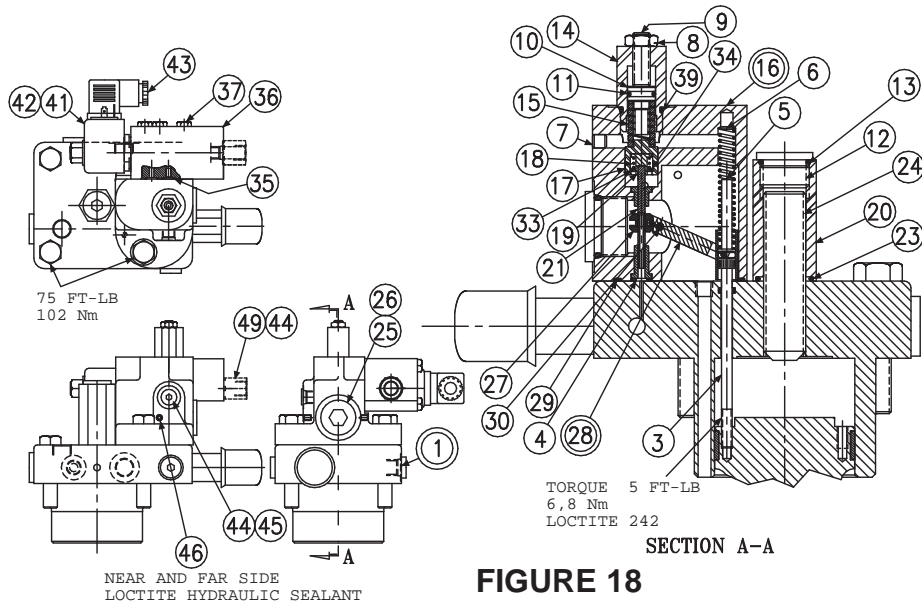

FIGURE 18
| 1 | #Electrohydraulic Stroker (Fig. 18) | S22-16001 | S22-16002 | 1 | 1 | 1 | 1 |
PARTS LIST FOR FIGURE 18
1. See Figure 18. Remove 3 screws (37) holding block (36) to body (16).
2. Remove 2 screws holding body (16) to cap assembly (1).
3. Remove all parts from body (16) except pin (30) and arm assembly (28). It is not necessary to remove these parts unless broken or worn. Examine parts for wear or damage.
4. Remove screw (3). Examine head for excessive wear, and body for smooth sealing surface with O-ring.
2. Install spool (4) into bore as shown. Install spring (8) over end of spool.
3. Install O-ring (13) on spring retainer (12). Install retainer (12), screw (14), and nut (15) in plug (3).
4. Install O-rings (7) and (16) on plug (3). Install plugs (3) and (9) in body (1). Install orifice (20) and plugs(10). Torque plugs. Install O-ring (5) in cap.
5. Turn screw (14) in until spring retainer (12) contacts spring (8). Turn an additional 1-1/2 turns and lock in position.
8. See Figure 18. Apply Loctite 242 on threads of screw (3), lubricate the shank, thread through the cap into the control piston, and torque to 5 lb.·ft., 6.78 N·m.
9. Install minimum stop screw (24) and turn clockwise to stroke pump to full volume. Measure height from control cap to top of screw (3). With control piston at full stroke, dimension must be .45 +/- .03 in., 11,4 +/- 0,76 mm. Back out minimum stop screw (24) till there is no contact with control piston.
10. Press dowel (30) into body (16), through the link (28), to 1/4, 6,35 mm below surface, apply Loctite Hydraulic Sealant to threads of screws (46) and install over dowel (30).
11. Press spool (21) into retainer (19). Caution: do not use excessive force. Place spool/retainer assembly into spool (17) with spring (18) and washer (34). Secure with retaining ring (33).
12. While sleeve (27) is engaged into dowel on link (28), slide above spool assembly into bore of body (16), and through sleeve (27). Spool (21) must move freely and easily at all positions of the link (28).
13. Install proportional valve (41) in block. Torque to 20 ft.·lbs., 27 N m.
15. Assemble all other components into body (16) per above drawing. Torque the plug (12).
16. While spring retainer is engaging clevis pin (5) under dowel of link (28), slide the other opening of spring retainer over the top of the screw (3). Attach body assembly (16) to cap (1) with two screws and torque to 75 lb.·ft., 102 N m.
Ref. Figure 18